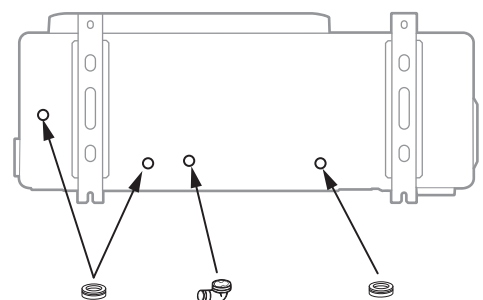

fig. 18 - Installation of the outdoor unit
- During normal operation, condensation is common. Ensure that the unit is installed in a well drained location (e.g. Gravel, sand). If installation is carried out in an area where the temperature stays below 0°C for long periods, check that the presence of ice does not present any danger. A drain pipe can be connected to the condensate drain tray (option) (see *fig. 18*).
The outdoor unit must be raised at least 50 mm above ground level. In areas prone to snow, this height should be increased but should not exceed 1.5 m (fig. 18).
(see fig. 18).